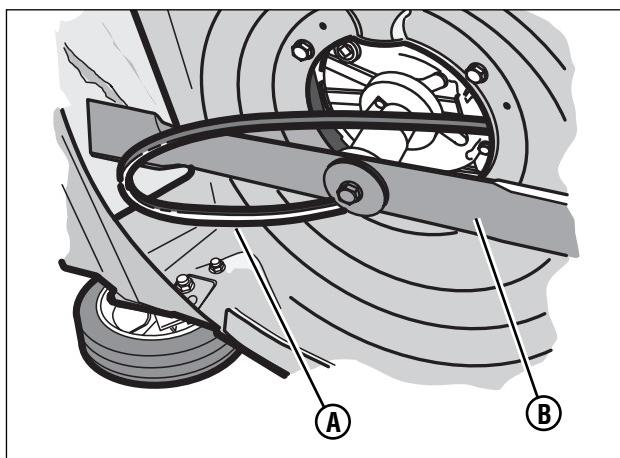

Figure 21: Removing the belt
5. To remove the rear of the drive belt (**A**, **Figure 21**), slip the drive belt over the end of the blade (**B**).